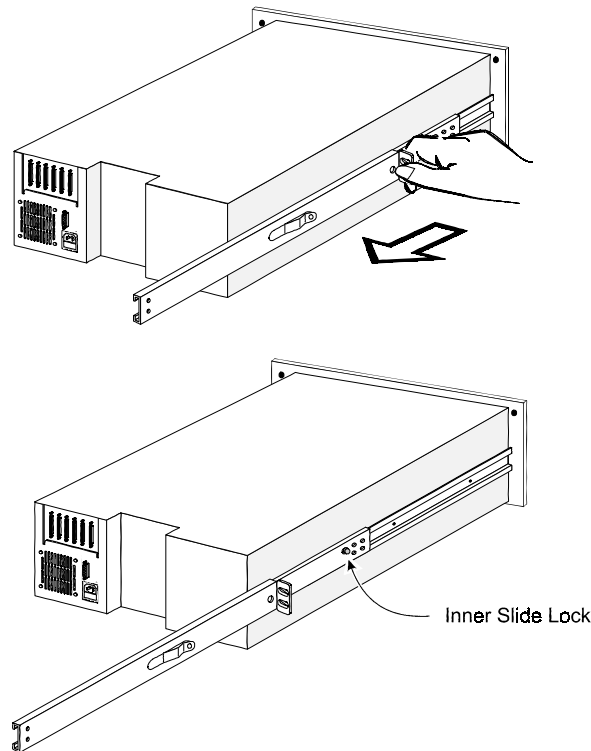

Figure 2-2 **Separating a Rack Slide**
2. Refer to Figure 2-2. Separate each set of slides as follows: